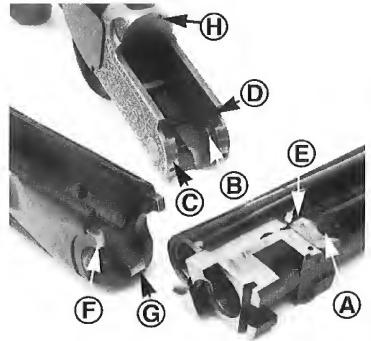

Fig. 2
2. Remove the stock and action from its plastic cover and lubricate all the contact points shown in **Fig. 2 (A,B,C,D)** with a few drops of high quality gun oil.
5. Referring to Fig. 2, hook the barrel recesses (A) over the trunnions (B) with the barrels pointing down, at about 45 degree to the receiver.
6. If your model is equipped with automatic ejector, be sure that the ejector lugs (**E**) enter the lug recesses (**D**) in the receiver. **See Fig. 2.**
7. For long term storage or shipping, the top opening lever should be restored to the center position. To do this, push and hold the top lever to the right to relieve tension on the top lever release button. Then using a hard object, depress and hold flush with breech face the top lever release button **(H) (Fig. 2)**. Now slowly allow the top lever to return to the center position.